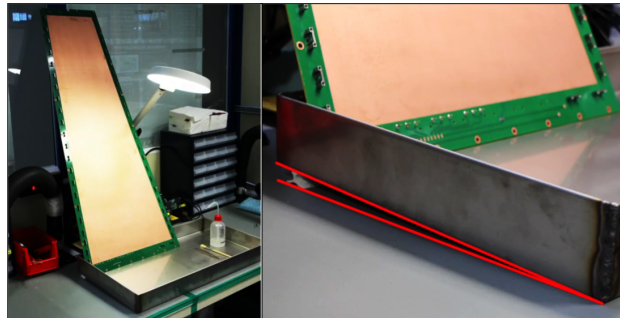

Figure 23: Preparation for cleaning.
Step 1: Place the board in vertical position in the tub, the large base facing down. Tilt the tub to ensure that the acetone will flow before drying and leave contaminants on the edge of the PCB. (Fig. 23).